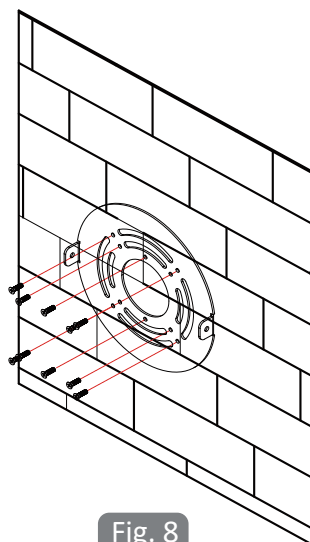

Fig. 8
1. Secure the mounting plate to the wall with M3 screws, see Fig. 8.